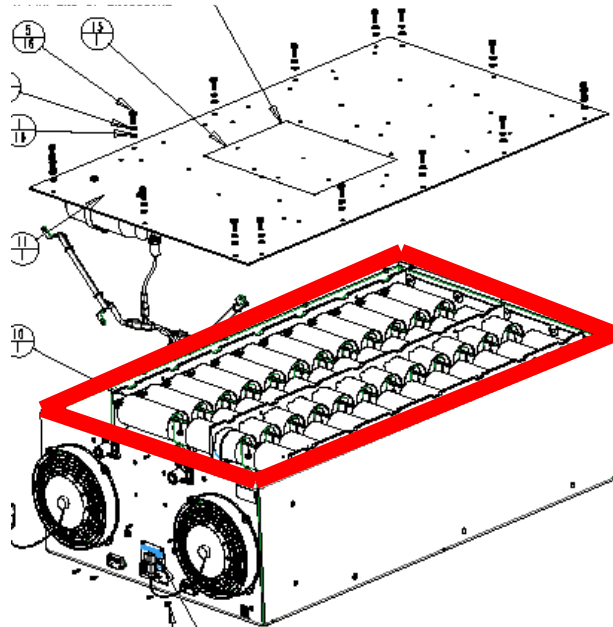

Fig 22 – UCAP Lid Installation
- a. Ensure old silicone around perimeter of UCAP is cleaned off, add a fresh bead of silicone (**NFI PN 401722**) around perimeter of lid and reinstall lid using all 16 screws, lock washers, and washers. See Fig 22